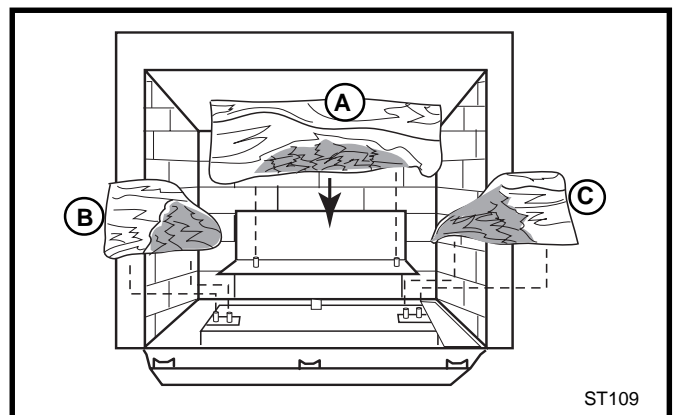

Fig. 13 Install the back, left and right logs.
- Install the rear log A, by engaging it with the pins on the sheet metal shelf at the back of the firebox. (Fig. 13)
- Install the left and right middle logs, B and C, by engaging holes on their bottoms with pins on the burner brackets. (Fig. 13)